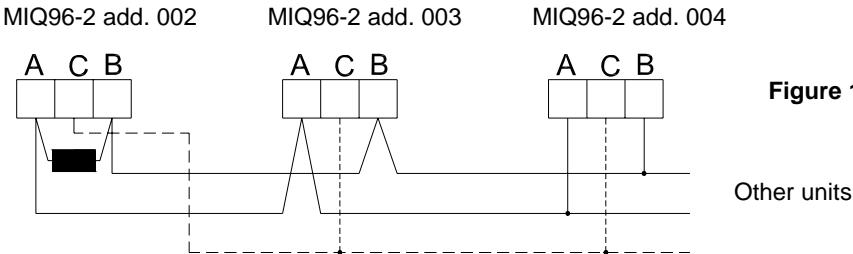

Figure 16.4
5. Make the connection for communication RS485 as shown in figure 16.4 below.